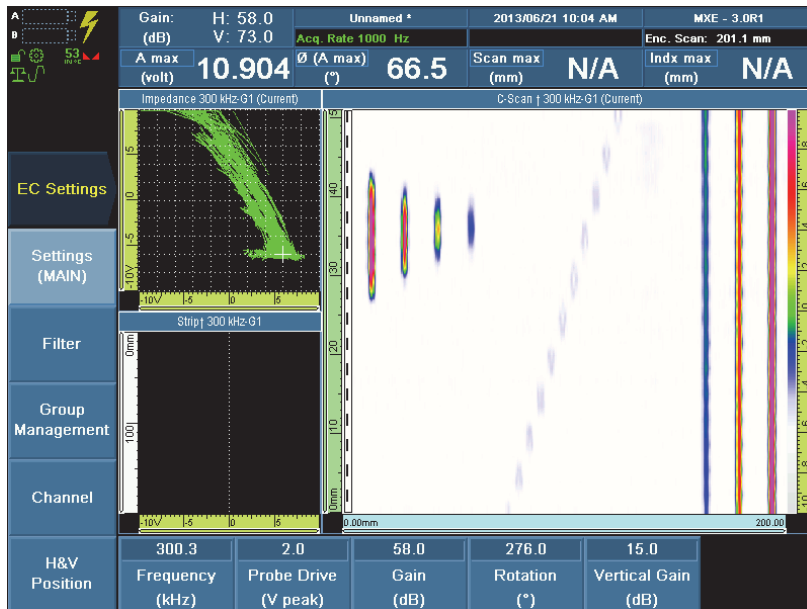

Figure 3-11 The display set to the CSI view
1. Adjust the display setup to present a C-scan, an impedance plane, and a strip chart. Select **Display > Setup > Acquisition = CSI**, and then press the Accept key to confirm (see Figure 3-11 on page 67).